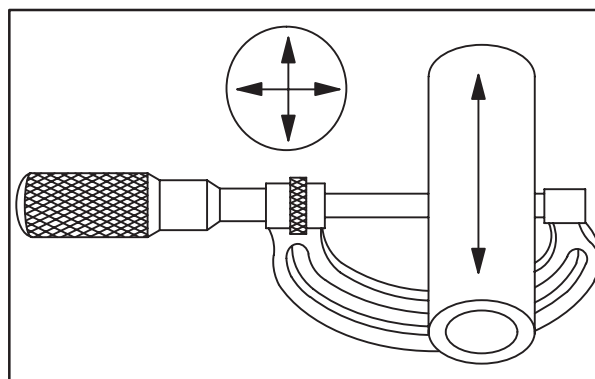

Fig. 6
1. Measure piston pin, **Fig. 6**. Replace pin if worn beyond reject dimension or 0.0005" (0.01 mm) out of round.